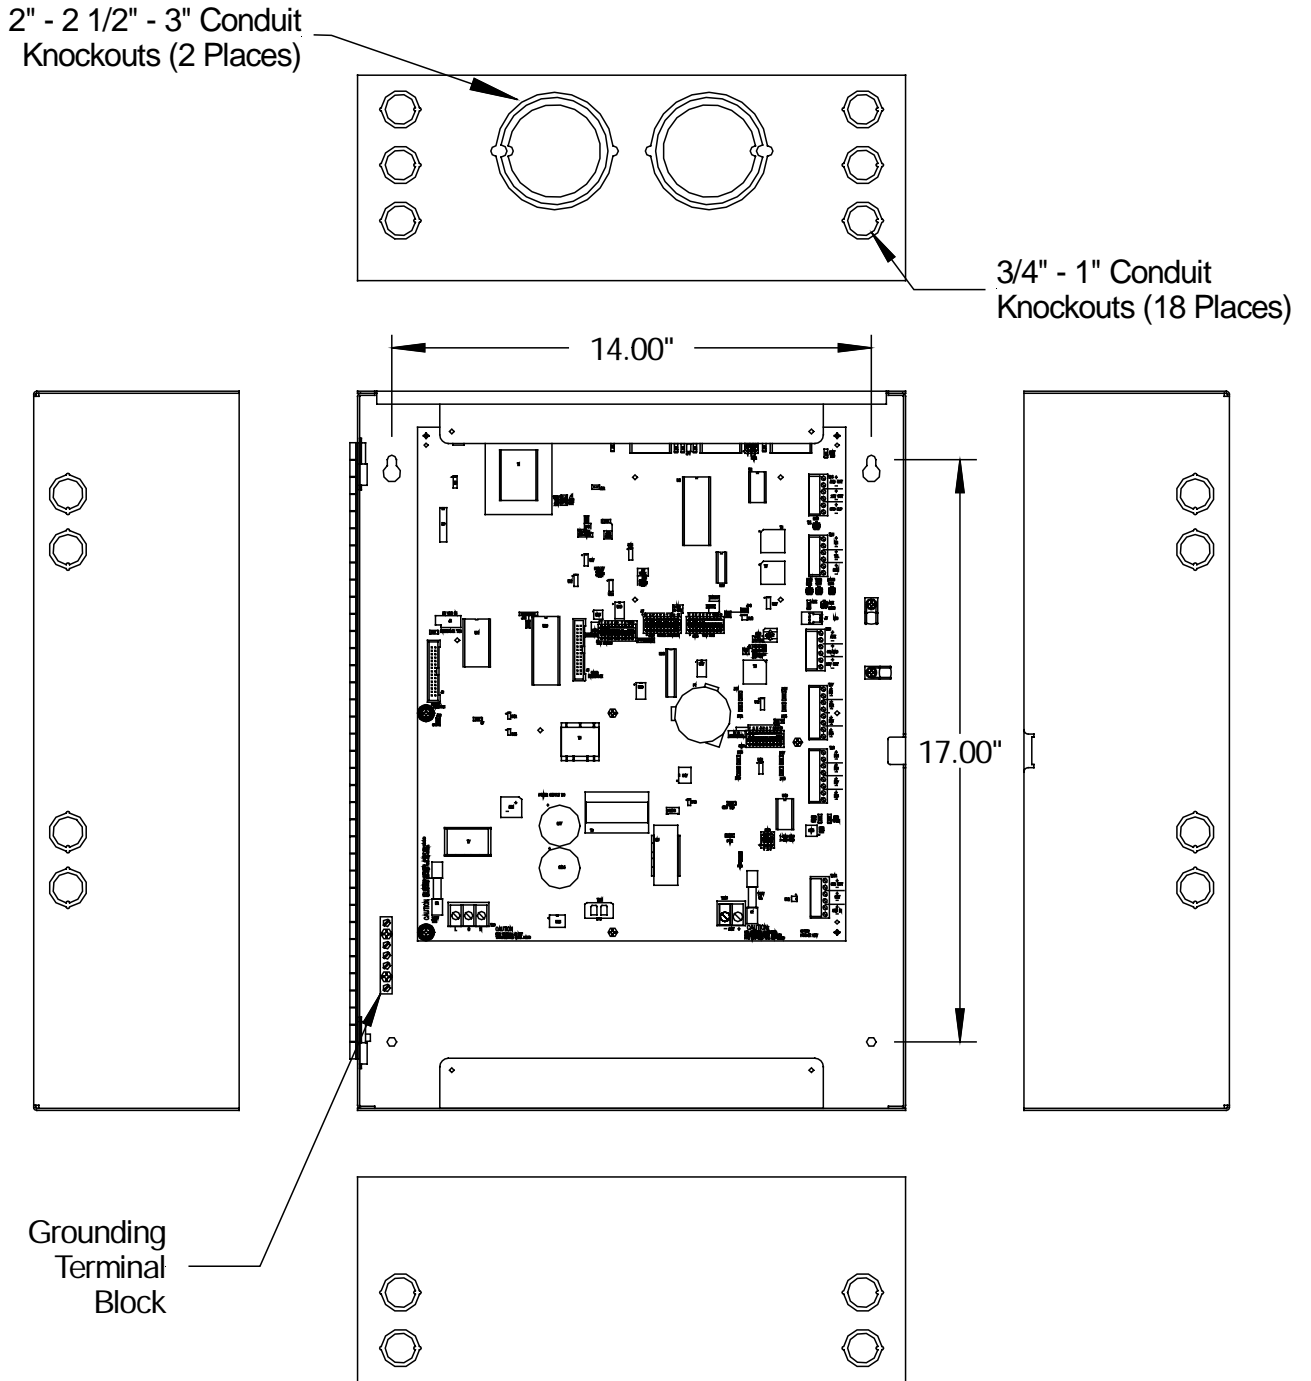

Figure 4-2 SP40S Panel Mounting and Grounding/Conduit Location
1. See Figure 4-2 for the panel mounting hole layout.
NOTE: Shielded wire is not required on any output circuits. If shielded wire is used, connect the shields to the ground terminal block as shown in Figure 4-2.
3. Connect the SP40S panel to earth ground, following the National Electrical Code and local codes for the type of system being installed. Wire gauge selection of the earth ground wiring involves consideration of all factors, including maximum allowable wire resistance and length. The panel is tied to earth ground by connecting the ground terminals to an earth ground. The location of the ground terminals within the panel is shown in Figure 4-2.